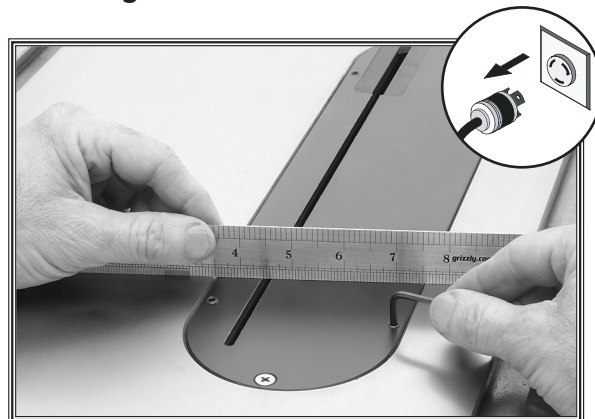

Figure 27. Adjusting the table insert.
4. Use a 3mm hex wrench and straightedge to adjust the table insert flush with the table as shown in **Figure 27**.